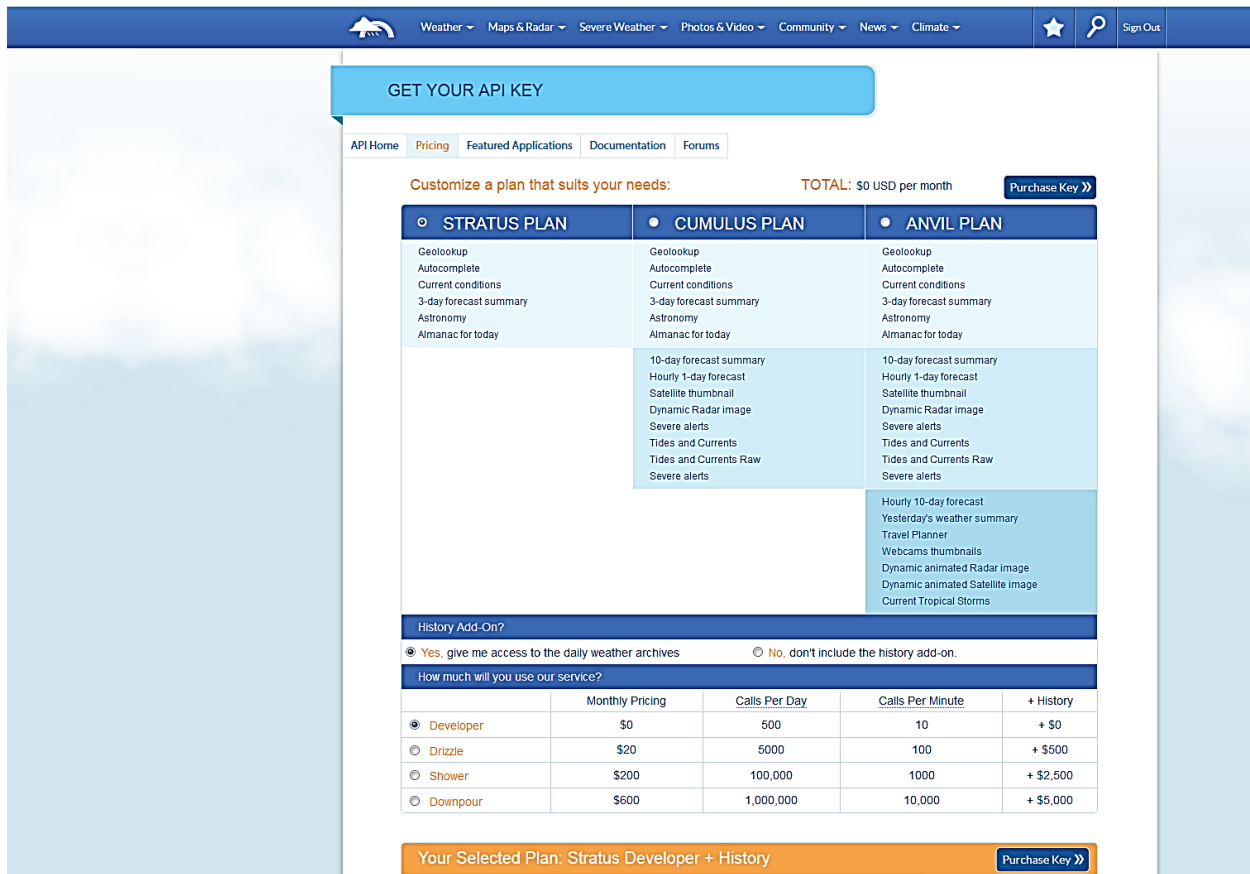

Figure 20: Creating a WeatherUnderground API Key
- Select a plan that meets your needs. Login to with your username and password and click on “Explore my options button.” For most applications the free plan will be adequate. The window should appear similar to Figure 20: